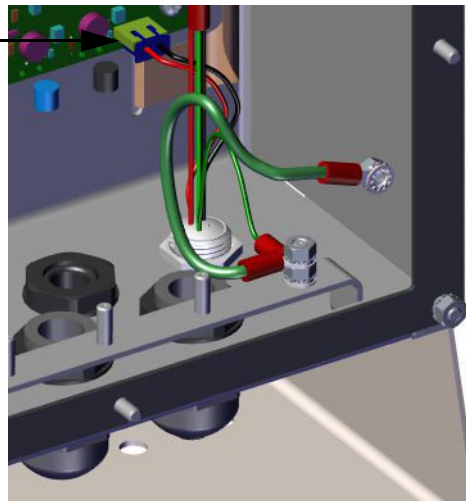

Figure 2-10. Connect DC Wiring
The DC power cable should be attached to connector J3 (Figure 2-10 on page 18).
3. Run the other two wires up the side of the indicator and connect the three pin plug (PN 15888) to the power supply board as shown in Figure 2-10 and Table 2-4.